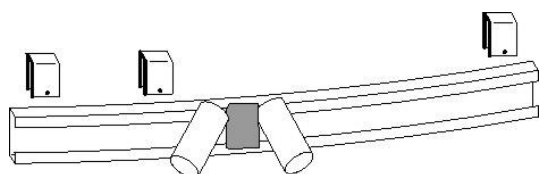

fig. 3.1
Step 3: Fixing of „C“ Profile (fig. 3.1 to 3.4)